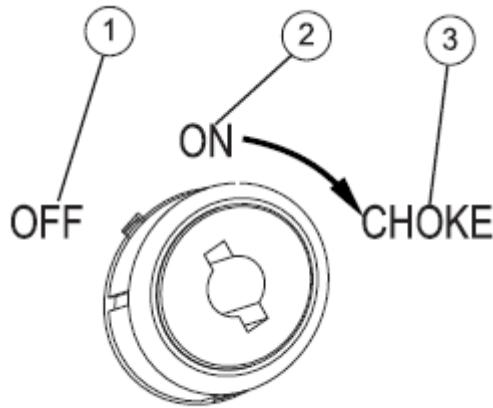

Figure-9 Off / On / Choke Positions
- * **See Figure-9.** Turn OFF/ON/CHOKE dial from STOP to ON. This will open the fuel valve and permit starting.